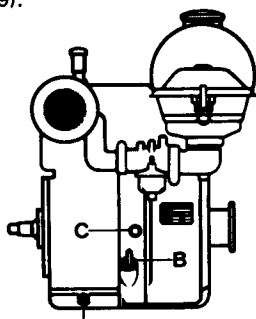

Fig. 1
Fill the fuel tank with regular petrol (minimum octane number 86 RON = two star rating) by means of a sieve funnel. Check the engine oil level with the dip stick (B, fig. 1) screwed completely in. The oil quantity should be maintained at a level between the max. and min. marks shown on the dip stick. Check the air filter; if necessary, clean. If engine is equipped with a MAG paper element air filter or an oil bath air filter, please observe the instructions contained in the lubrication and maintenance chart (page 9).
- When running with petrol:** Put the engine into idling speed and press the stop button (C, fig. 1). Close the fuel cock.
- When running with paraffin:** Switch the fuel cock over to "petrol" position and let the engine run for 2-3 minutes. Then put the engine into idling speed and press the stop button (C, fig. 1). Close the fuel cock.